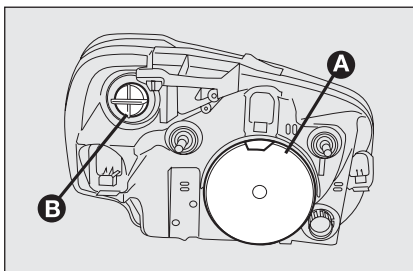
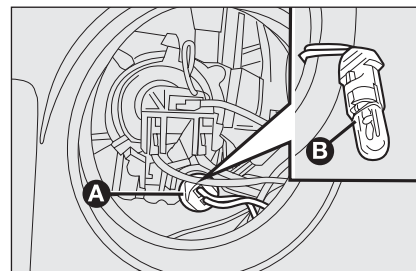

fig. 22
fig. 23
FRONT LIGHT CLUSTERS **fig. 22**
- ☐ remove the protection lid **A-fig. 22**;
- ☐ turn the bulb holder anticlockwise **A-fig. 23** and pull it out;
- ☐ install the new bulb: fit the bulb back in position **A-fig. 23** and put the protection lid **A-fig. 22** back.
- ☐ release the bulb stop clip as shown by the arrows **fig. 22**;
- ☐ close the bulb stop clip and reinstall the protection lid **A-fig. 22**;
- ☐ turn the protection lid **B-fig. 22** anti-clockwise;